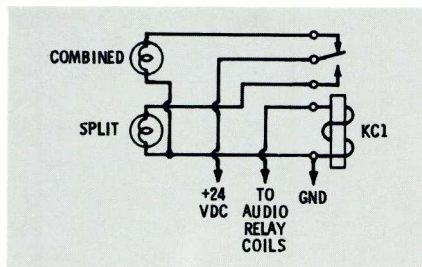

Fig. 5. Relay controls lamps to show mode in which stations are operating.
**Mode Supervisory Signaling.** Fig. 5 shows KC1, the contacts of which operate the mode-supervisory lights. The KC1 coil is connected across the audio relay coils so that it op-